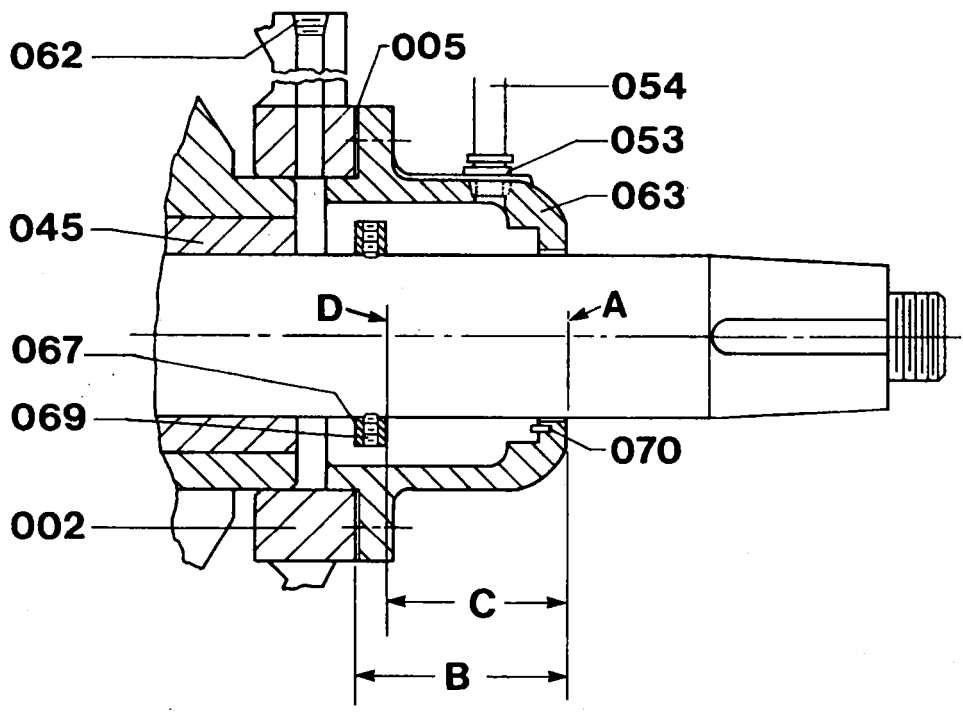
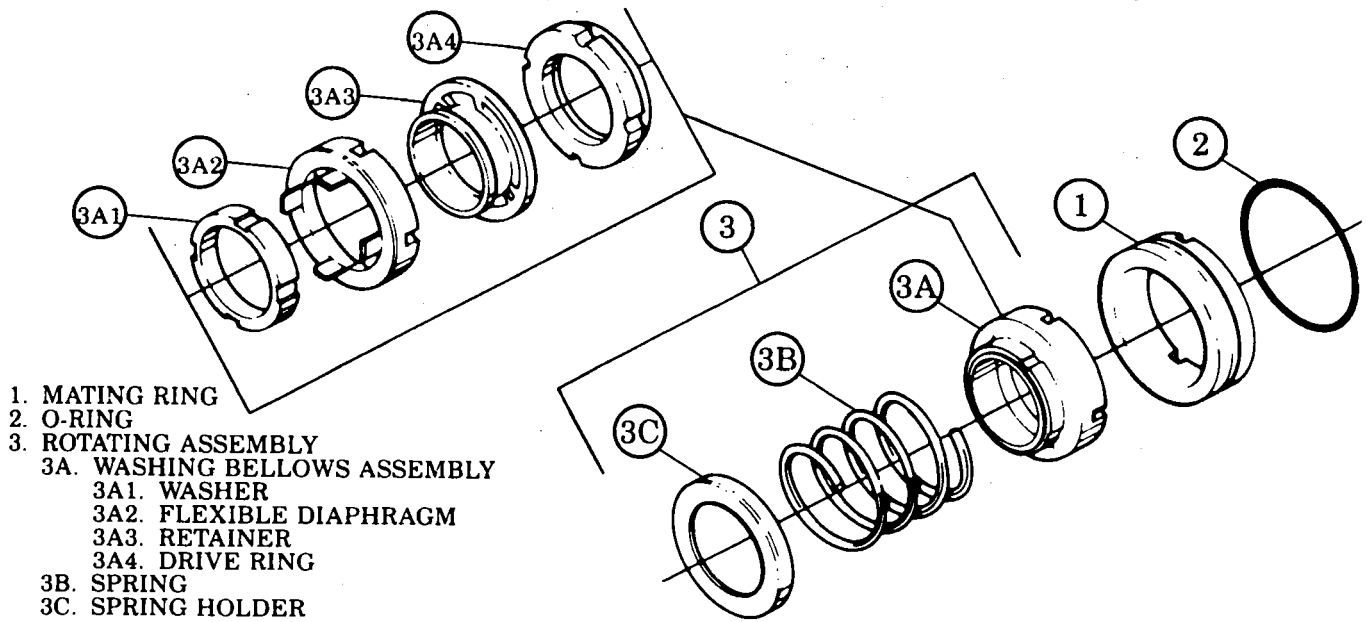

FIGURE 2. Position Setting of Seal Sleeve (Crane 21 Seal)
FIGURE 5. Crane 21 Mechanical Seal
With pump driver deenergized and all valving locked shut, disconnect coupling. Loosen setscrew (061, Figures 9 through 11) and remove checknut (046). Remove pump coupling hub and key (044). Disconnect and remove tubing (054) from coupling end of pump. Remove bolts (009), seal housing (063) and gasket (005). Loosen mechanical seal (064) setscrews, if installed, and slide seal rotating assembly (3, Figures 5 through 8) off power rotor (034). Slide mechanical seal stationary parts (1 and 2, Figures 5 through 8) from seal housing (063).
Install mechanical seal (064) rotating assembly (3, Figures 5 through 8) on power rotor as follows; (NOTE: Refer to Table 1 for type of mechanical seal installed.)
CRANE TYPE 21. The installed working length of the Crane Type 21 mechanical seal is controlled by position setting of sleeve (067, Figure 2) on power rotor (034, Figures 9 through 11). To install or verify correct setting of sleeve (067, Figure 2), proceed as follows: (Refer to Figure 2 unless otherwise noted.)
Wipe power rotor with oil, then slide mechanical seal rotating assembly (3, Figure 5) on power rotor. Mechanical seal rotating assembly (3) is correctly installed when spring holder (3C, Figure 5) is next to sleeve (067). Do Not push on washer (3A4, Figure 5) face when installing washer bellows assembly (3A, Figure 5). Do Not allow flexible diaphragm (3A3, Figure 5) to be cut or damaged when sliding rotating assembly on power rotor.
Stationary parts (1 and 2, Figure 5) of mechanical seal are installed during installation of seal housing (063) in later step.
Wipe seal housing (063), Figures 2 through 4) bore with lubricating oil. Ensure spring pin (070, Fig-
ures 2 through 4) is installed in seal housing. Wipe either stationary face (1, Figure 7) or mating ring (1, Figure 5, 6 or 8) and stationary face gasket (2, Figure 7) or O-ring (2, Figures 5 or 6) or mating ring packing (2, Figure 8) with lubricating oil. Slide part 2 (Figure 5, 6, 7 or 8) on part 1 (Figure 5, 6, 7 or 8). Slide assembly in seal housing (063), Figure 2, 3 or 4) with part 1 (Figure 5, 6, 7 or 8) aligned with spring pin (070, Figure 2, 3 or 4).
Mechanical Seal Type Pump. Remove bolts (009), seal housing (063) and gasket (005) from cover (002). Remove mechanical seal (064) stationary parts (1 and 2, Figure 5, 6, 7 or 8) from seal housing (063).
Crane 21. Slide rotating assembly (3, Figure 5) from power rotor (034). Loosen setscrew (069, Figure 2) and slide sleeve (067, Figure 2) off power rotor (034).